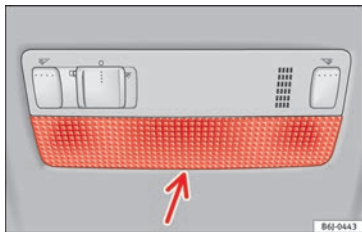

Fig. 101 Front reading light.
- Insert a fine screwdriver between the casing and the glass » Fig. 101.